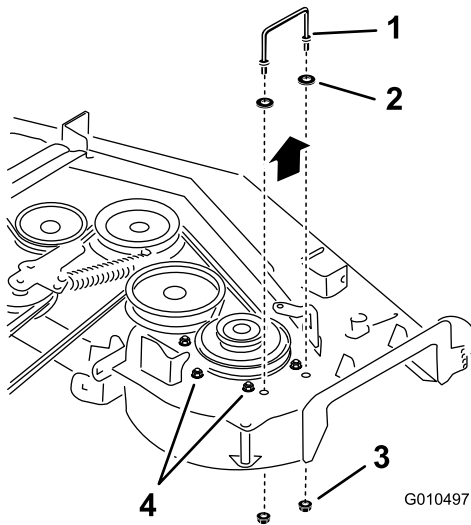
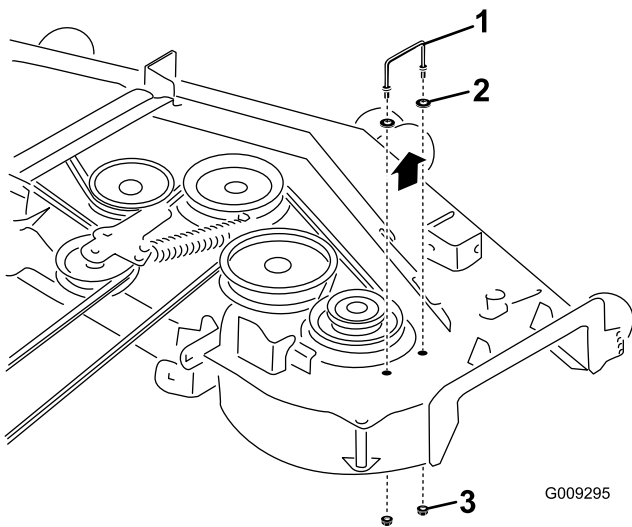

Figure 2
Figure 3
3. **For 48- and 52-inch mowers only:** Loosen the bolts holding the right spindle to the mower deck (Figure 2).
4. Remove the existing right belt cover bracket (Figure 2 and Figure 3).